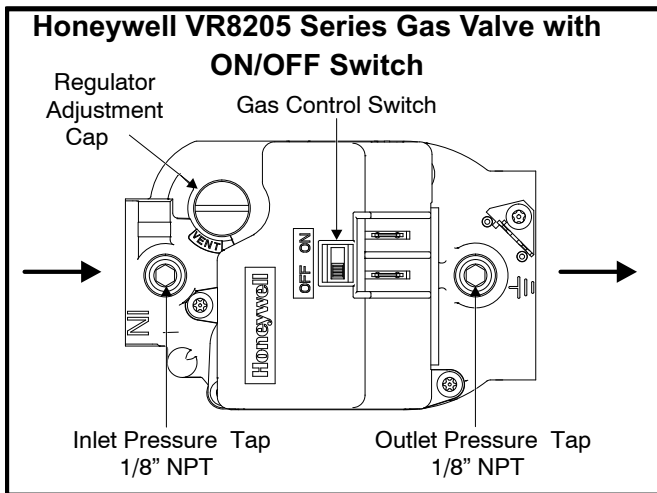

Figure 2
- 4 - *Honeywell VR8205 Gas Valve with ON/OFF Switch* - Set gas valve switch to **ON**. See figure 2.